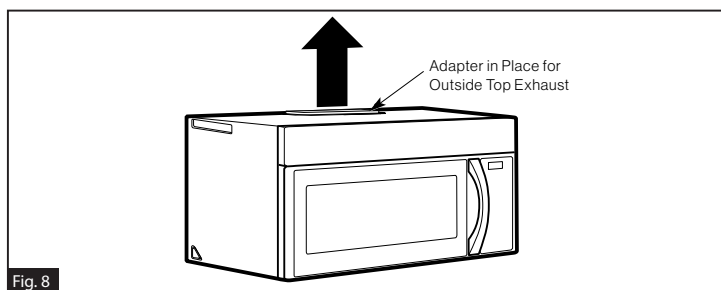

Fig. 8
B. Outside Top Exhaust (Vertical Duct) (Fig. 8)